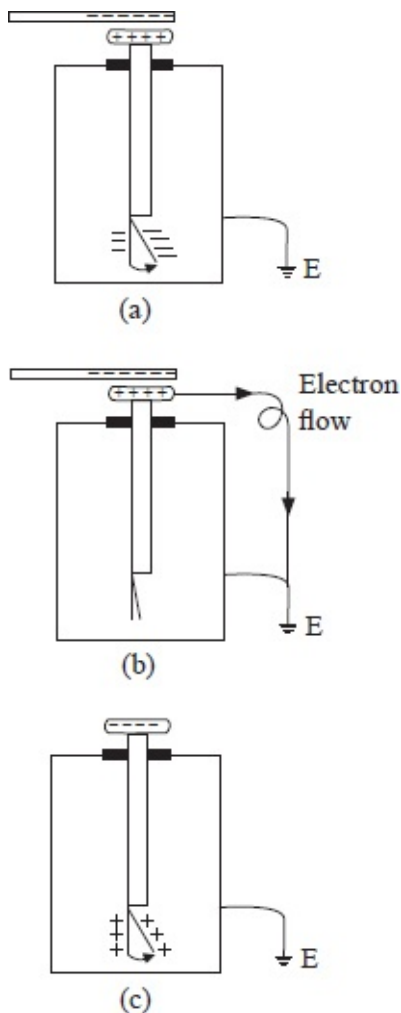

Fig. 9.10: Charging an electroscope by induction
- Bring a charged polythene rod close to the cap of the uncharged electroscope, see figure 9.10 (a). Note what happens to the leaf of the electroscope.
When the charged polythene rod is brought close to the cap, the leaf rises. When the cap is touched while the rod is still in position, the leaf divergence decreases, see figure 9.10 (b).
polythene rod subsequently withdrawn, the leaf diverges, see figure 9.10 (c).
When the earth connection is broken by removing the finger and the polythene rod withdrawn, the positive charge which was attracted to the cap redistributes onto the plate and the leaf. The leaf as a result diverges and the electroscope becomes positively charged, see figure 9.10 (c). The electroscope can be charged negatively in the same way by using a positively charged rod.